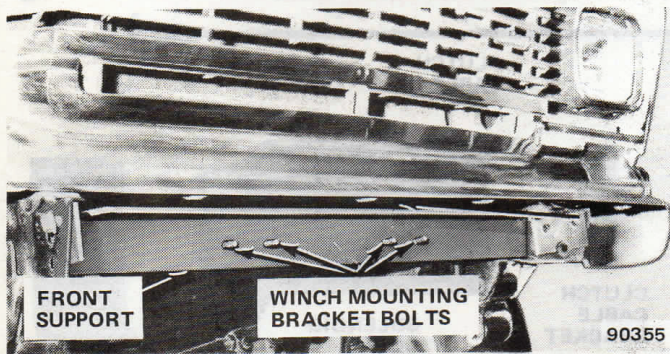

Fig. 5-9 Front Support Installation
(4) Insert four  $3/8 \times 1$  bolts in bolt holes at center of front support and position support inside frame rail channels (fig. 5-9).